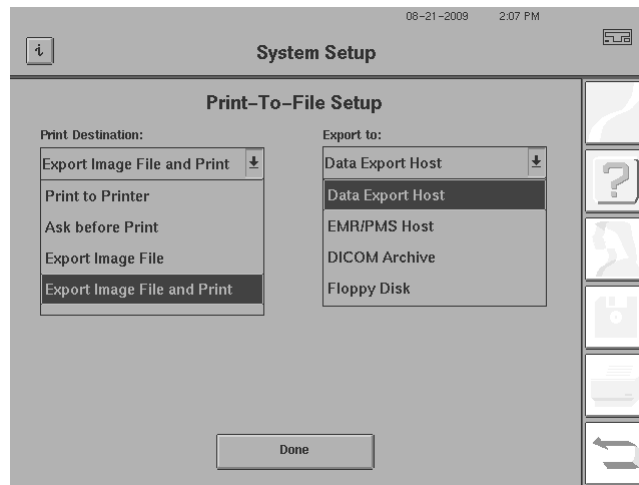

Figure I.31 Print Destination: and Export To: Drop-Down Buttons
- 3 Select the PRINT DESTINATION: drop-down box (see Figure I.31). Your available selections in this drop-down box are: